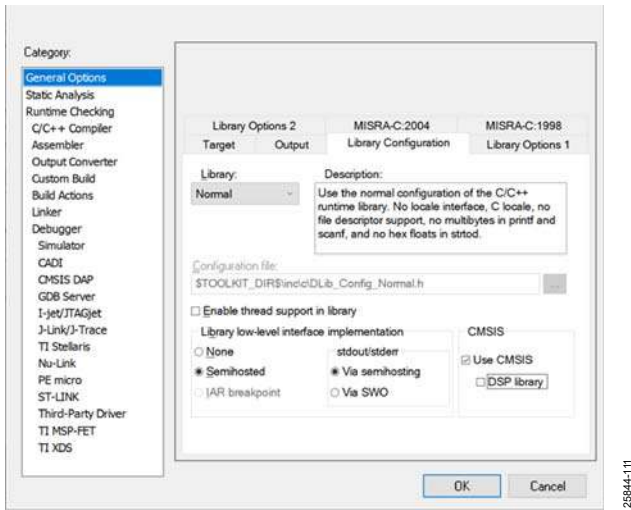

Figure 12. IAR Library Configuration
- After the **ADuCM420** device is selected, click the **Library Configuration** tab. Ensure that all settings match those shown in Figure 12.